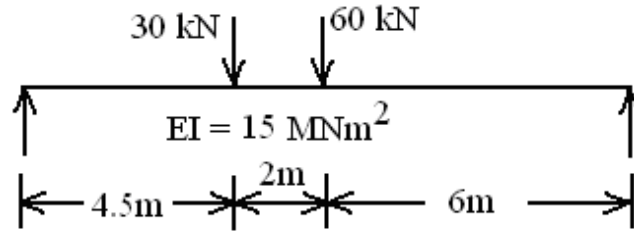

figure 2
5. Compute the maximum deflections and support rotations in the beams of the following figure 2 using